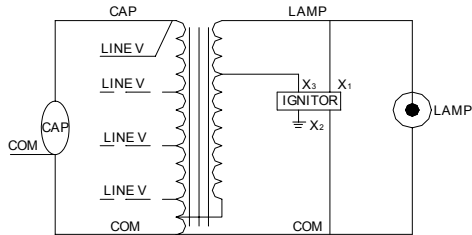

Fig. 3
4. Complete the wiring to the power source and ground; (Fig 3 or 4)